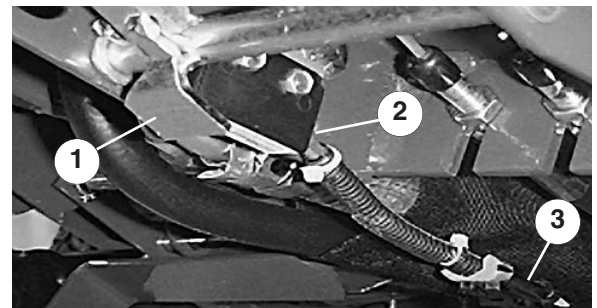

Figure 42
1. The gap between the parking brake shaft pivot paddle and the bottom of the interlock switch (Fig. 42) should be approximately $\frac{1}{16}$ " (the paddle must not contact switch).